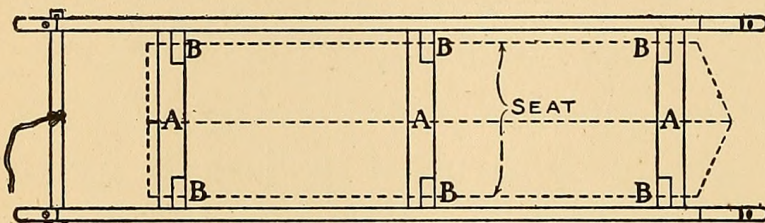
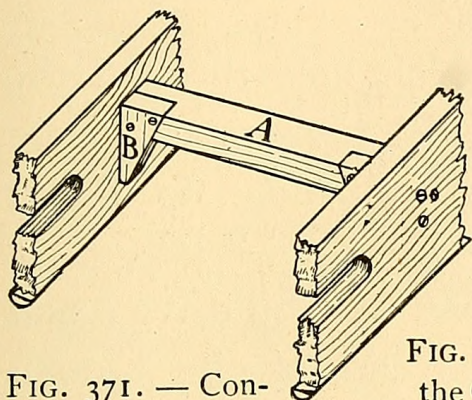
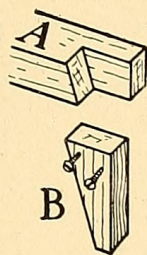

FIG. 370. — Plan of Runners and Cross-pieces.
FIG. 371. — Connect the Runners like This.
FIG. 372. — Cut the Cross-pieces and Braces like This.
**Connecting Cross-pieces** (*A*, Figs. 370 and 371) 12 inches long, 2 inches wide, and  $1\frac{1}{2}$  inches thick and prepare the ends of each as shown at *A* (Fig. 372); then cut
the six braces *B* (Figs. 370 and 371) as shown in Fig. 372, to fit the mortises in the ends of *A*. Screw the braces to the cross-pieces and to the runners (Fig. 371), then screw the cross-pieces between